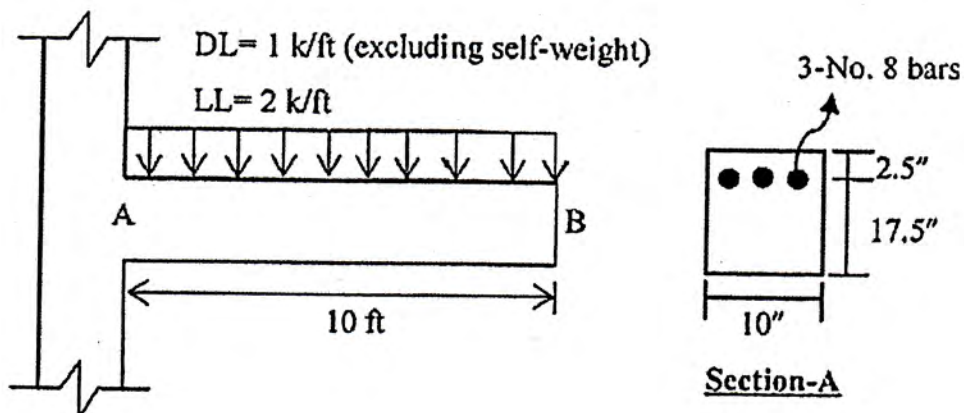

Figure 6
8. Using vertical U stirrup with $f'_c = 4$ ksi, $f_y = 60$ ksi, design the web reinforcement of the beam AB in the following figure 6 according to ACI-USD method. (10)